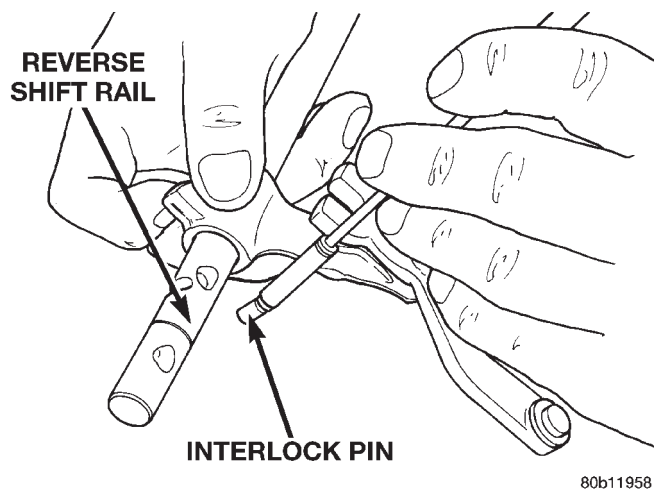

Fig. 71 Remove Interlock Pin From Reverse Shift Rail
(28) Remove interlock pin from reverse shift rail (Fig. 71).